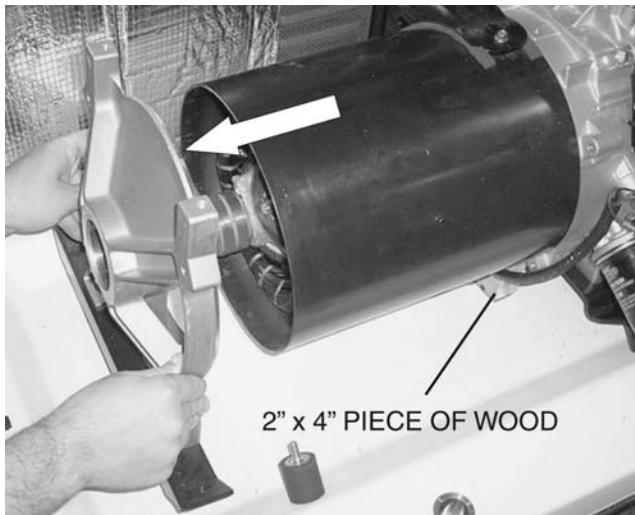
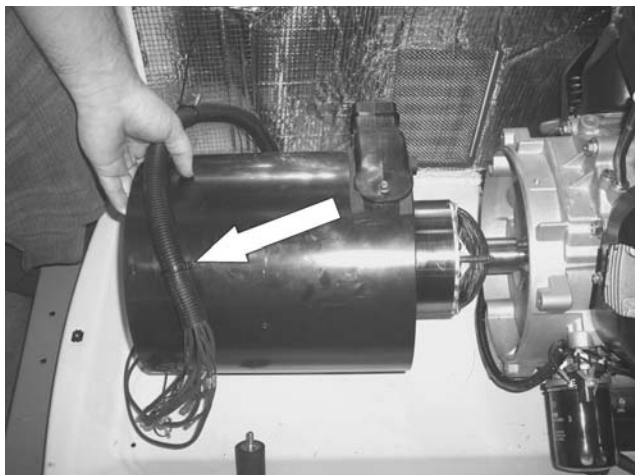

Figure 201.
Figure 202.
16. **Rear Bearing Carrier Removal:** Using a 13mm socket, remove the two nuts from the alternator mounting bracket rubber mounts. Lift the back end of the alternator up and place a 2"x 4" piece of wood under the engine. See Figure 201. Using a 13mm socket, remove the four stator hold down bolts. See Figure 201. Using a small rubber mallet remove the rear bearing carrier. See Figure 201. Remove stator. See Figure 202.